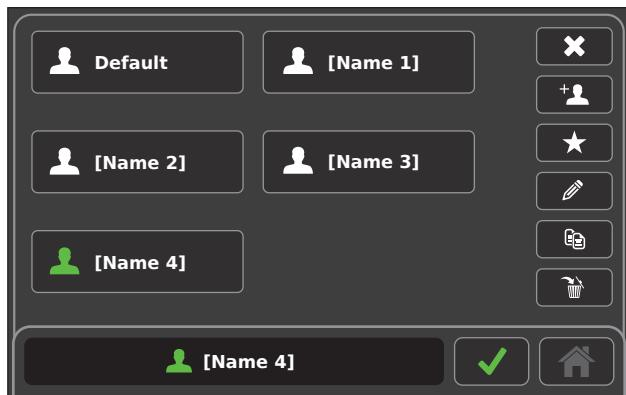

Figure 58 – Confirm Preset Selection
2. Touch the desired preset to make a selection (Figure 58).